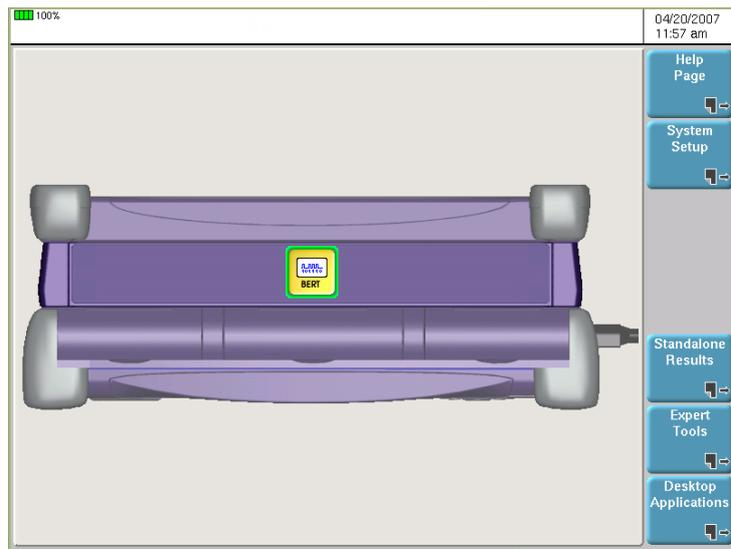

Figure 1 T-BERD / MTS 8000 System Screen
- 2 Press the **System** button on the front panel to display the T-BERD / MTS 8000 System Screen screen on the user interface. Figure 1 illustrates the screen with a single connected Transport Module.
- 1 Verify that the Transport Module or MSAM is OFF by ensuring that the corresponding BERT icon (or icons) on the System Screen are grey (see Figure 1 on page 3).
- 5 Press the **System** button on the front panel to display the System screen on the user interface (see Figure 1 on page 3).
- a** Press the **System** button on the front panel to display the System Screen on the user interface (see Figure 1 on page 3).